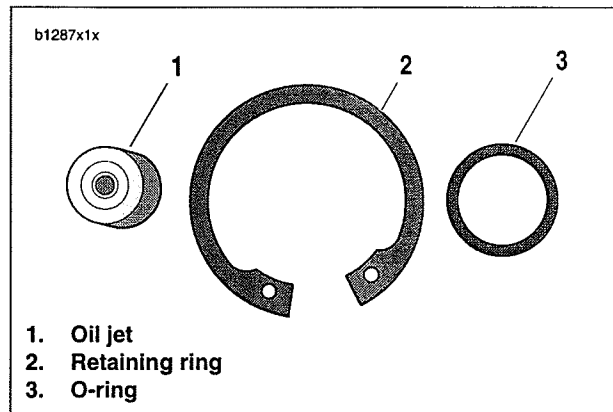

Figure 2. Oil jet kit
Kit 94678Y Contents (see Figure 2)**
See Figure 2. The retaining ring (2) holds the actuator piston in place to prevent spilling of clutch fluid.